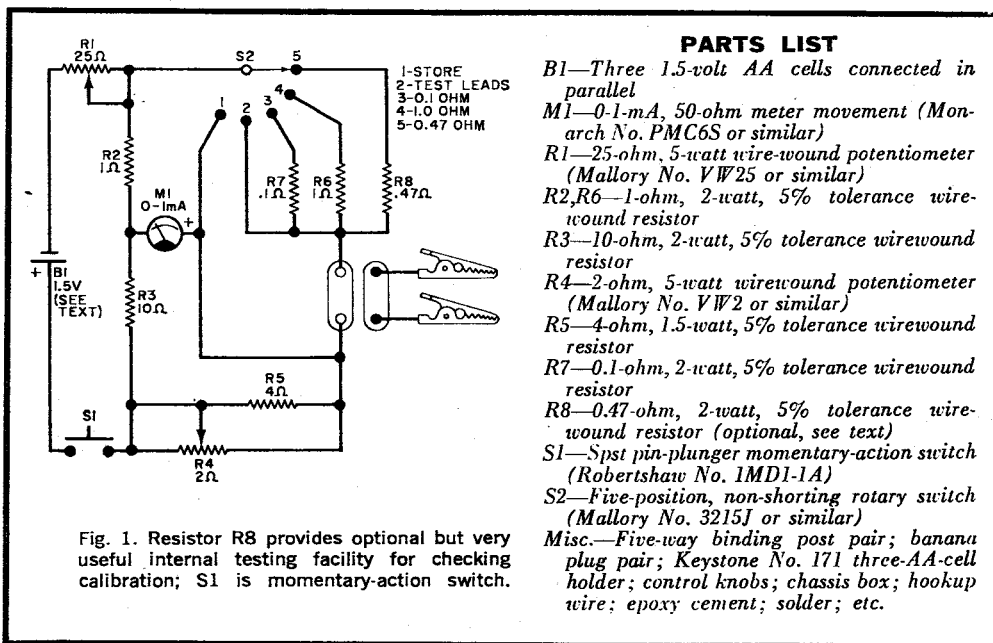

Fig. 1. Resistor R8 provides optional but very useful internal testing facility for checking calibration; S1 is momentary-action switch.
**Theory of Circuit Design.** As shown in Fig. 1, the circuit of the milliohmmeter consists of a resistive bridge, one side of which is made up of the test leads (and resistance being measured). Closing S1 causes current to flow from B1 via R1 to the bridge.